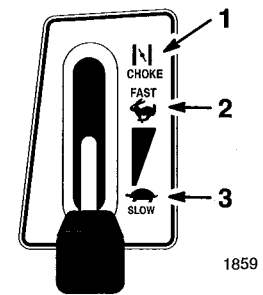

Figure 8
4. Move the throttle lever to “CHOKE” (Fig. 8).
6. After the engine starts, slowly move the throttle lever to “FAST” (Fig. 8). If the engine stalls or hesitates, move the throttle lever back to “CHOKE” for a few seconds. Then move the throttle lever to “FAST.” Repeat this as required.
1. Move the throttle lever to “SLOW” (Fig. 8).